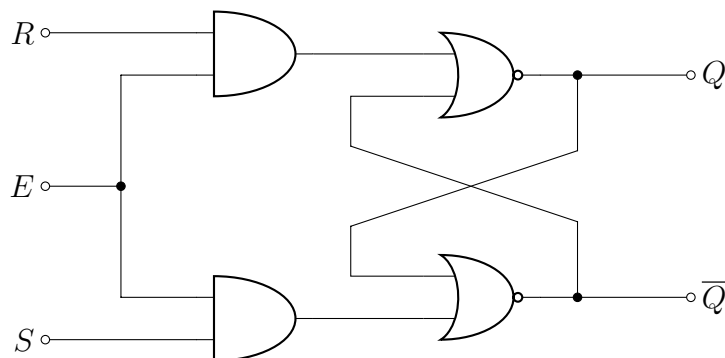

Figure 6: Gate-Level Diagram of a Clocked NAND-Gate SR Flip-flop
3. (Optional) Another very useful implementation of NAND gates is the Debounced Switch or SR Latch. A Debounce Switch prevents pushbutton switching events from triggering more than On/Off occurrence in a circuit. Debouncing inputs is critical in many logic circuit applications. A Debounce Switch or SR Latch can be completely constructed using discrete NAND gate logic when wired as shown in Figure 6. This exercise is left as an optional activity.